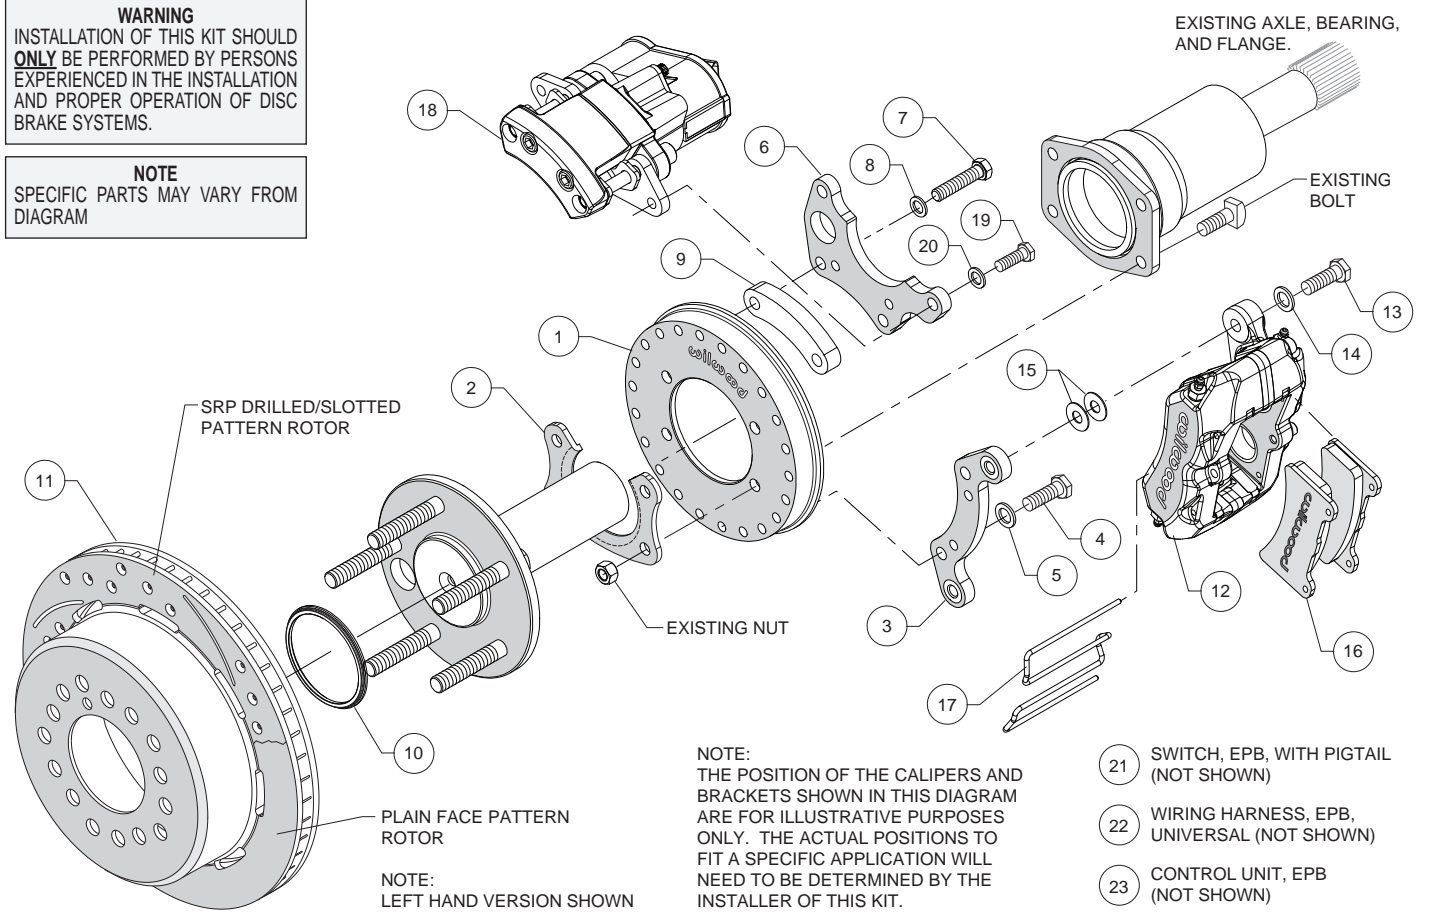
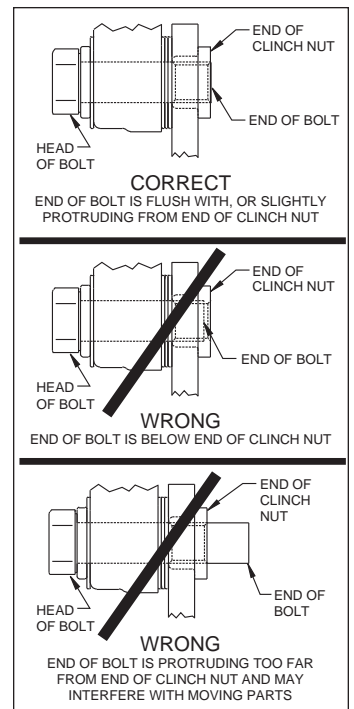

Figure 1. Typical Installation Configuration
Figure 5. Clinch Nut Engagement Diagram
(numbers in parenthesis refer to the parts list, and Figure 1 on the preceding pages):
CAUTION: All mounting bolts must fully engage clinch nuts. Be sure to check that all bolts are either flush or protruding through flanged side of clinch nut after shimming, Figure 5.
- Orient the backing plate (1) as shown in Figure 1 and Photo 1, and slide it onto the axle housing flange. Ensure the backing plate fits flush against the axle housing flange. Reinstall the axle into the axle housing.
- Install the bearing retainer (2) with the opening pointing upward and the lip facing inward (toward the bearing), as shown in Figures 1 and 4, and Photo 2. Secure retainer and backing plate to the axle housing flange using the Original Equipment Manufacturer (OEM) bolts and nuts, Figure 1 and Photo 3. Apply red *Loctite*® 271 to the OEM bolt threads and torque to OEM specifications.
- Start by determining the best location for the service caliper (12). This caliper is usually mounted in the 3:00 or 9:00 o'clock position, but may be rotated up or down approximately 45 degrees and still allow for proper bleeding, Photo 4. Orient the service caliper bracket (3) as shown in Figure 1 and Photo 5, and install to the backing plate (1) in the desired location using bolts (4) and washers (5). Temporarily tighten bolts. Next, mount the service caliper to the bracket using bolts (13) and washers (14). Temporarily tighten bolts. Check that the caliper (including inlet fitting and hose) has sufficient clearance to all surrounding components through the full suspension travel. Relocate the caliper/bracket on the backing plate as needed to ensure proper clearance is achieved.
- Determine the best location for the EPB caliper (18). **NOTE:** *The EPB caliper motor extends farther inboard than the service caliper and therefore needs additional consideration when determining a mounting location with sufficient clearance.* In the example application shown in Photo 6, the EPB caliper has sufficient inboard clearance to the leaf spring. However, if the EPB caliper were mounted closer to the 12:00 o'clock position, the inner body of the vehicle would hit the caliper during full compression of the suspension.
•Orient the EPB caliper bracket (6) as shown in Figure 1 and Photo 7, and install to the backing plate (1) in the desired location using bolts (7), washers (8), and spacer (9). Temporarily tighten bolts. **NOTE:** The EPB bracket is reversible. In one direction the bracket will position the EPB caliper closer to the service caliper, and vice versa if reversing the bracket. Next, mount the EPB caliper (18) to the bracket using bolts (19) and washers (20). Temporarily tighten bolts. **NOTE:** EPB calipers are Left and Right handed, however they can be used on either side of the vehicle to best suit your specific application. Check that the EPB caliper (including wiring harness connector) has sufficient clearance to all surrounding components through the full suspension travel. Relocate the EPB caliper/bracket on the backing plate as needed to ensure proper clearance is achieved.
•Once the caliper positions have been determined, remove both the service (12) and EPB (18) calipers, leaving both brackets in place on the backing plate. For both brackets, remove the bolts one at a time, apply red *Loctite*® 271 to the threads, and torque to 35 ft-lb.
•Slide the rotor registration adapter (10) onto the register on the axle flange with the smaller O.D. facing toward the rotor/hat (11), Photo 8. Align the correct hole pattern in the rotor/hat with the stud pattern on the axle flange and slide into place, Figure 1. **NOTE:** The rotor/hat must fit flush against the axle flange or excessive rotor run out may result. Install three lug nuts (finger tight) to keep the rotor/hat assembly in place while continuing with the installation. **NOTE:** Some OEM and after market axles come with stud sizes larger than 0.50" diameter. Verify stud size and have a qualified machine shop drill the bolt circle of the hat/rotor to the correct stud size, if necessary.
•**NOTE:** Please reference the caution statement at the beginning of the assembly instructions. Remount the service caliper (12) onto the caliper mounting bracket (3) using bolts (13) and washers (14), as shown in Figure 1. Initially place two .035" thick shims (15) on each bolt between the caliper and the bracket, Photo 9. Temporarily tighten the mounting bolts and view the rotor (11) through the top opening of the caliper. The rotor should be centered in the caliper, Photo 10. If not, adjust by adding or subtracting shims (15) between the bracket (3) and the caliper (12). Always use the same amount of shims on each of the two mounting bolts. **NOTE:** The end of each bolt must be flush with or slightly protruding from the head of the clinch nut, as shown in Figure 5. If necessary place spare shims (15) between washer (14) and caliper mounting ear to achieve the proper clinch nut engagement. Once the caliper alignment and clinch nut engagement are correct, remove the bolts one at a time, apply red *Loctite*® 271 to bolt threads, and torque to 40 ft-lb.
- Mount the EPB caliper (18) onto the caliper mounting bracket (6) using bolts (19) and washers (20), Figure 1. Apply red *Loctite*® 271 to bolt threads, and torque to 30 ft-lb.
- NOTE:** *The service caliper (12) in this brake kit utilizes a 1/8-27 NPT pipe thread inlet. OEM rubber brake hoses generally cannot be adapted to Wilwood calipers. The preferred method is to use steel adapter fittings at the caliper, either straight, 45 or 90 degree and enough steel braided line to allow for full suspension travel. Carefully route hoses to prevent contact with moving suspension, brake or wheel components. NOTE: Wilwood hose kits are designed for use in many different vehicle applications and it is the installer's responsibility to properly route and ensure adequate clearance and retention for brake hose components. Wilwood offers universal brake flex line hose kits, domestic (3/8-24 IF) chassis fittings, order:*